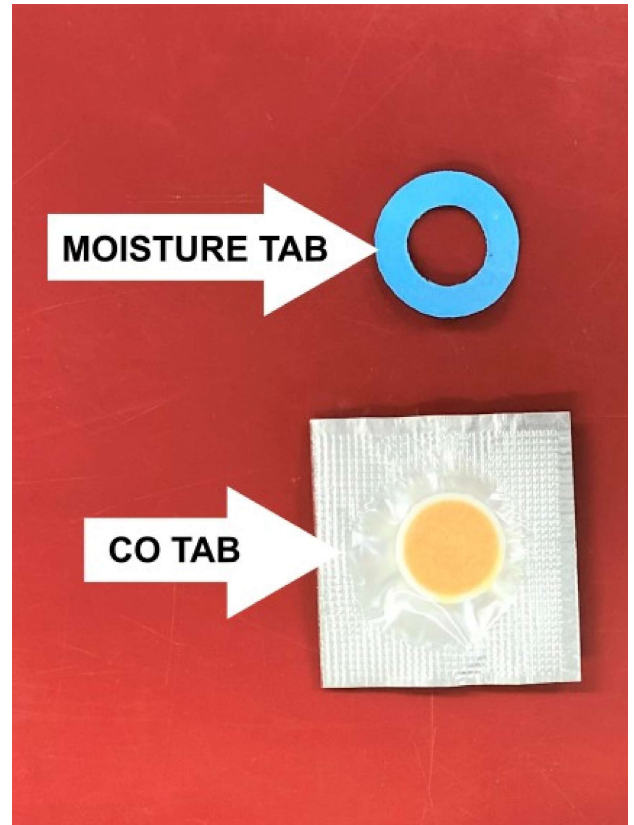

Figure 6.11: New CO and Moisture Tabs.
2. Replace with fresh CO and Moisture tabs. (Figure 6.11)